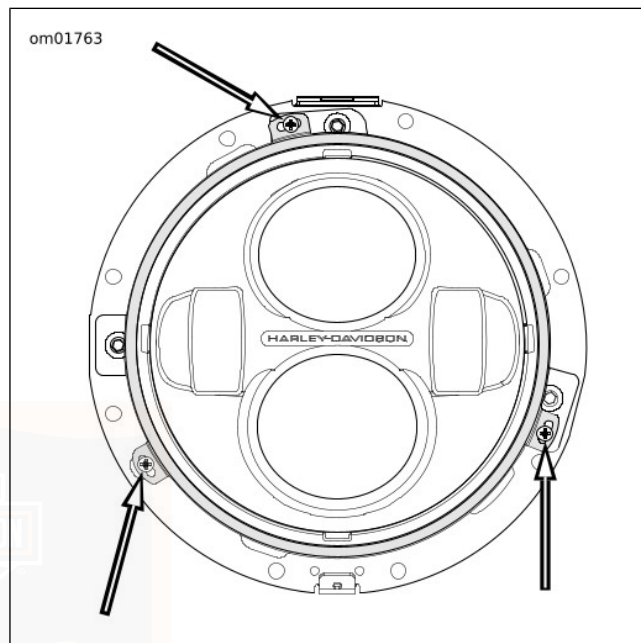

Figure 64. Headlamp Retaining Screws
3. See Figure 64. Remove screws securing retaining ring.